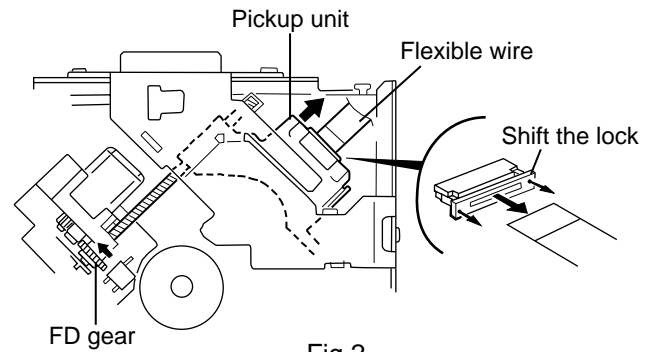

Fig.2
### ■ Removing the front chassis (See Fig.2)
**ATTENTION:** Turn the FD gear in the direction of the arrow to move the entire pickup unit to the appropriate position where the flexible wire of the CD mechanism unit can be disconnected easily (Refer to Fig.2).